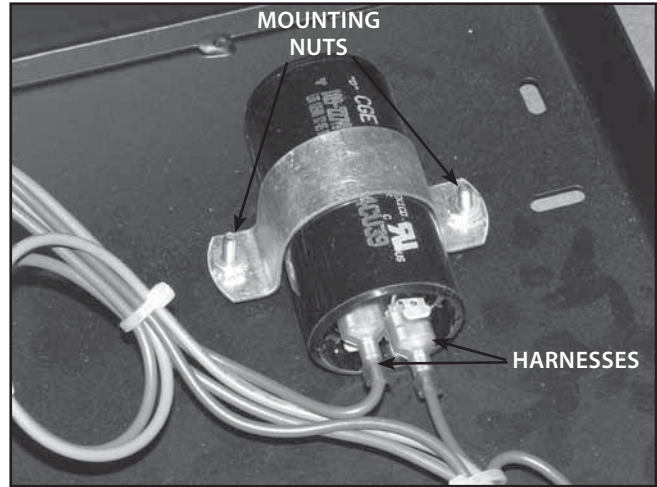

FIGURE 5.8
3. Using the Insulated Needle Nose Pliers, carefully remove the harnesses from the Starter Capacitor. See Figure 5.8.
5. Using the 5/16 in Socket and Ratchet, remove the two Starter Capacitor Mounting Nuts and remove the Starter Capacitor from the Electrical Panel. See Figure 5.8.